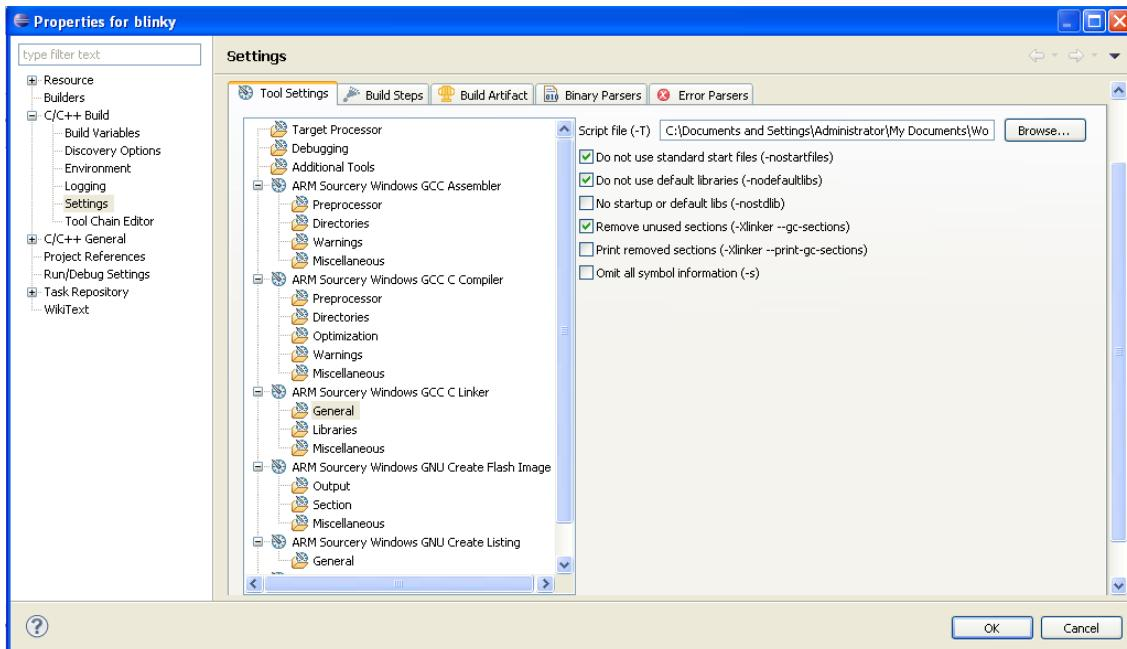

Figure 11.14 Linker File
- Make sure the same options are selected as shown in Figure 11.14.